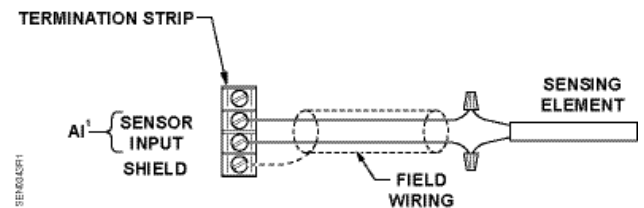

Figure 3 Typical Wiring Connection.
9. Attach the junction box and conduit; pull wires and terminate (see Figure 3). Replace the cover.
8. Attach the junction box and conduit; pull wires and terminate (see Figure 3). Replace cover.